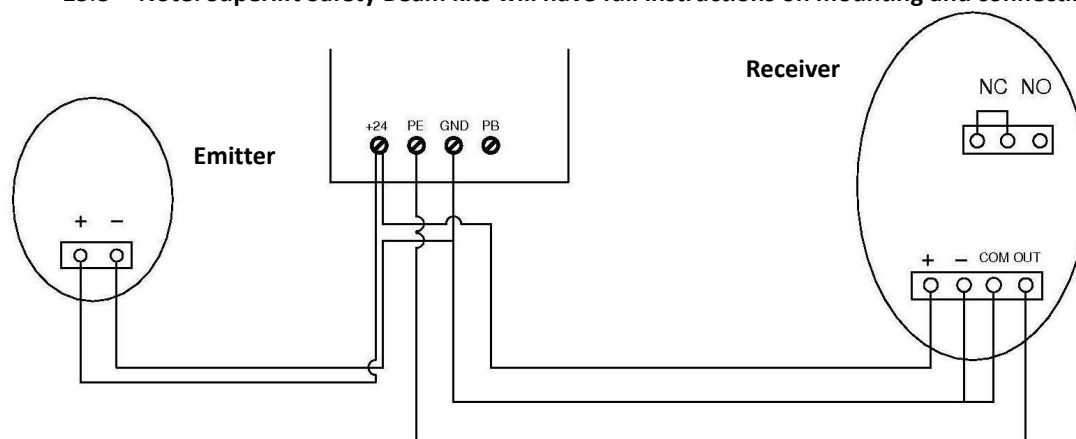

Fig.26
- 25.5 Using 3 Core Cable, strip back and connect 2 strands to the Emitter and 3 strands to the Receiver. (Fig.26)
- 25.7 Strip back and connect one strand of each cable to the terminals marked “24V”, “PE” & “GND”. (Fig.26)